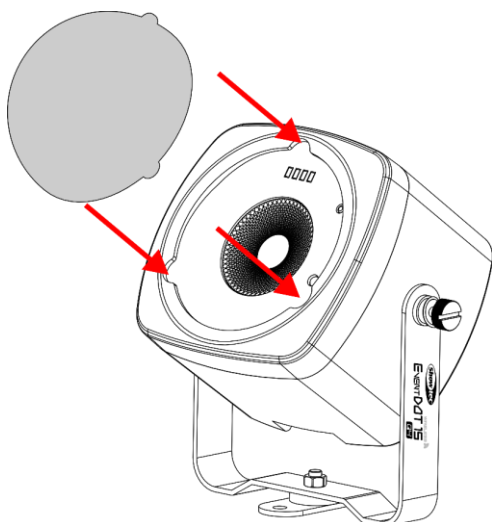

Fig. 15
- 01) Place the diffuser above the **lens (02)**, so that the 3 wings of the diffuser will fit into the **3 cut-outs for diffuser installation (03)** on the device, as shown in Fig. 15.